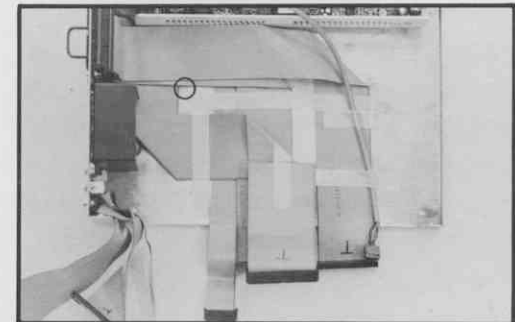

Figure 50 Video Cable
Tape the video cable to the chassis as shown in Figure 50. The 10-pin connector should extend about 1-1/2" over the edge of the chassis.
4.28 Figure 50 shows completed cable routings. Note the clearance around the card cage mounting holes.
Figure 50 doesn't show color cable routing. Power and heat restrictions prevent the Model 100U Workstation from running both a Xylogics 450 disk controller and a color board.
AS A FINAL CHECK, be sure the striped edge of each ribbon cable is to the RIGHT as the cables leave the chassis (see Figure 50).